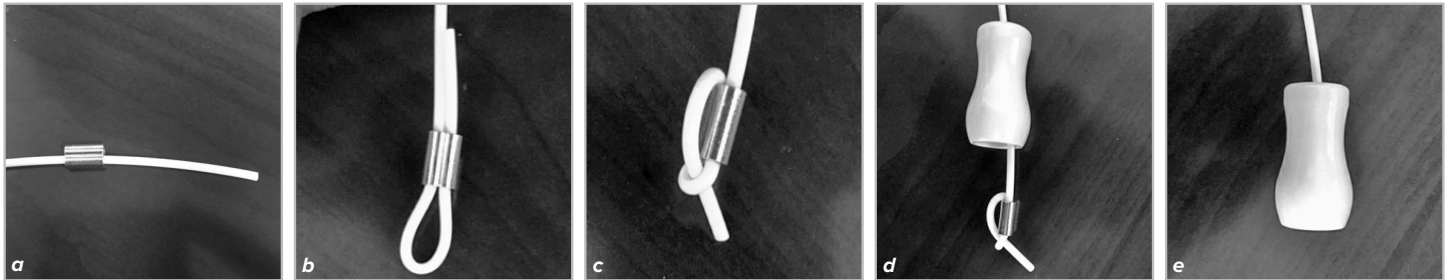
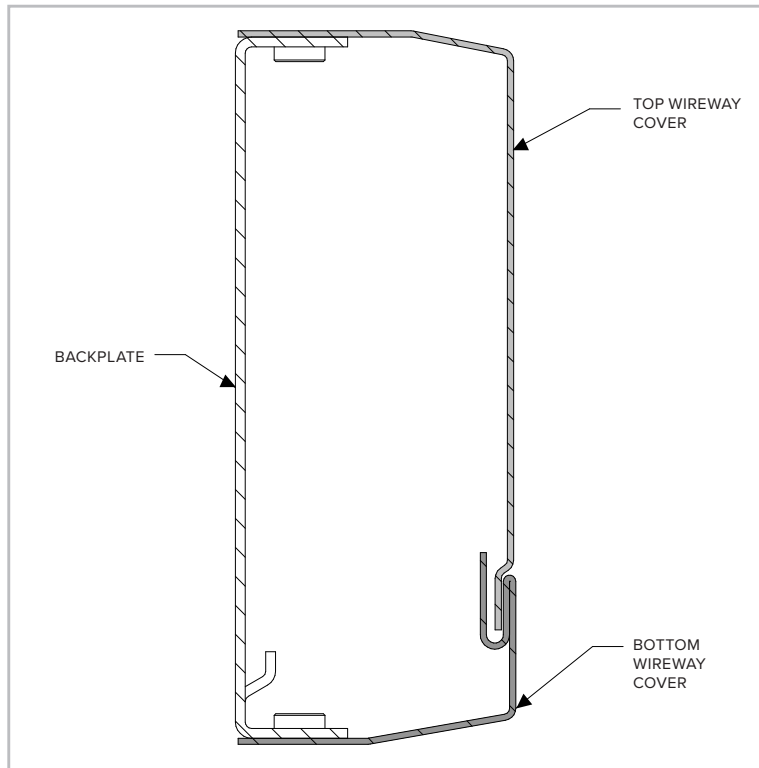

Figure 7: The antimicrobial plastic extension cord is assembled.
Figure 8: Remedy's two piece wireway cover allows for access to the fixture's components with minimal disassembly.
2. Reinstall the two-piece wireway covers with the 6 flat head screws. When reinstalling the wireway covers, ensure that no wires are pinched. Start by installing the lower portion of the cover. If a pull chain is present, attach the plastic extension cord to the chain and feed through the bushing in the lower wireway cover. After the lower portion of the cover has been installed, follow the steps shown in *Figure 7* to attach the pendant to the pull cord. Install the top portion of the cover, making sure to insert it into the lower portion as shown in the cross section in *Figure 8*.